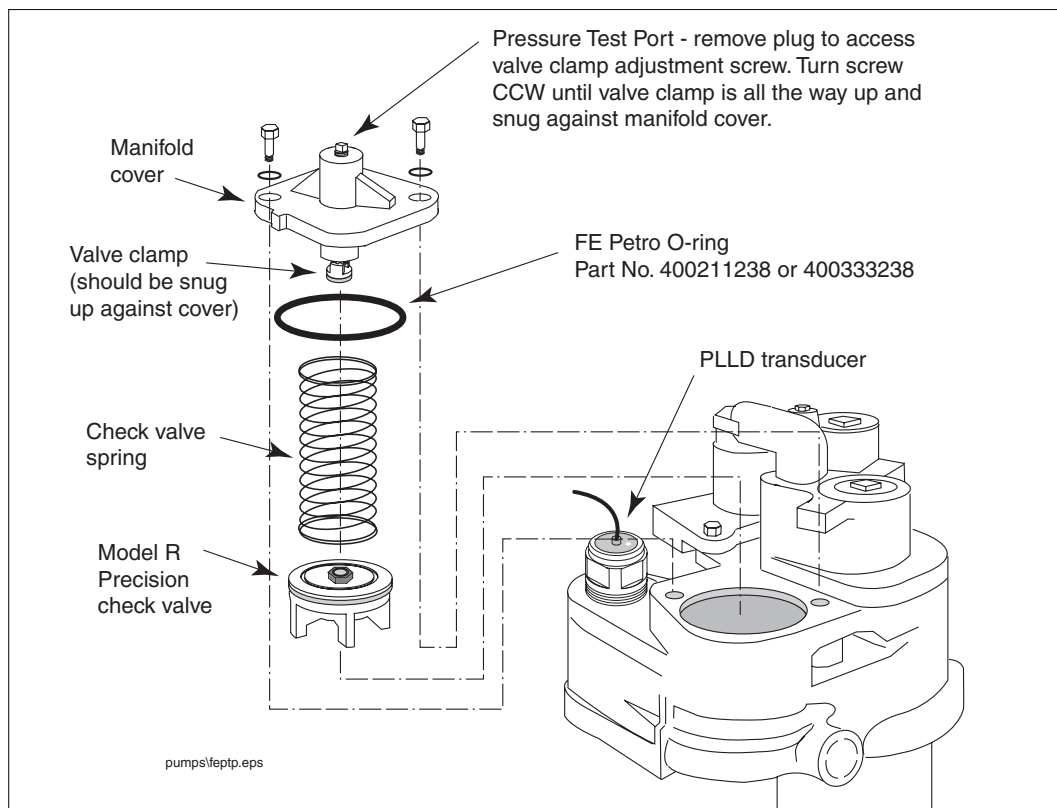

Figure 12. Location of PLLD transducer and model R precision check valve in FE Petro pump
Install the PLLD transducer into the 2" NPT port as shown in Figure 12.
5. For PLLD operation there must be a FE Petro model R precision check valve in the pump. If necessary, replace the current check valve with a model R precision check valve (ref. Figure 12).